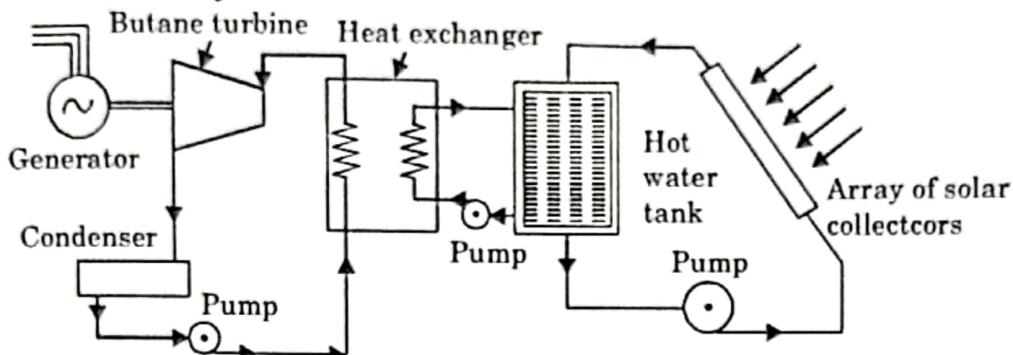

Fig. 2.18.1. Low temperature solar power plant.
1. A low temperature solar power plant uses flat-plate collector arrays shown in Fig. 2.18.1.